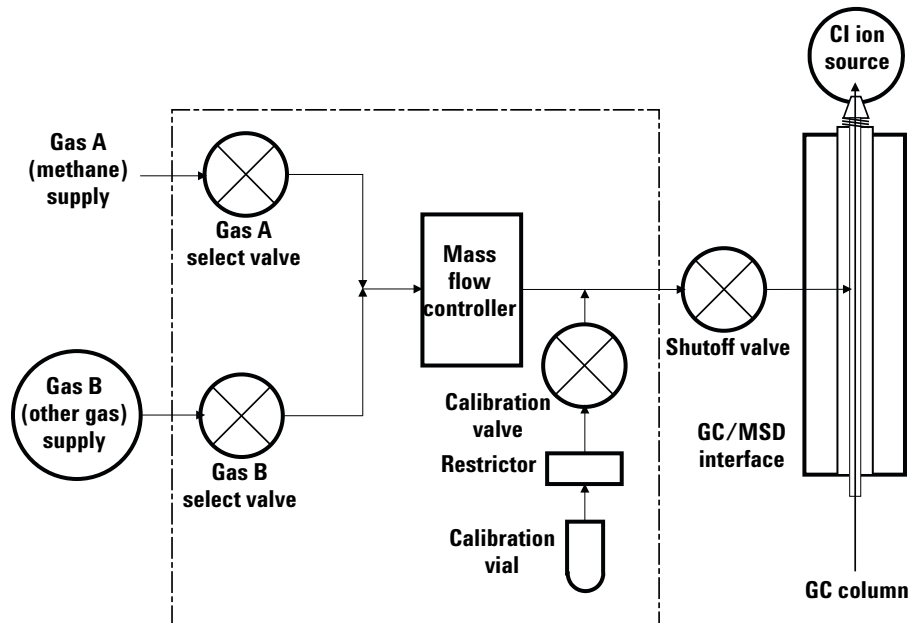

Figure 4 Schematic of CI flow control module
- 1 See Figure 4 on page 67 and Table 6 on page 67.
- Close valves starting at the gas select valves (**Gas A** then **Gas B**), then close the shutoff valve. See Figure 4 on page 67 and Table 6 on page 67.